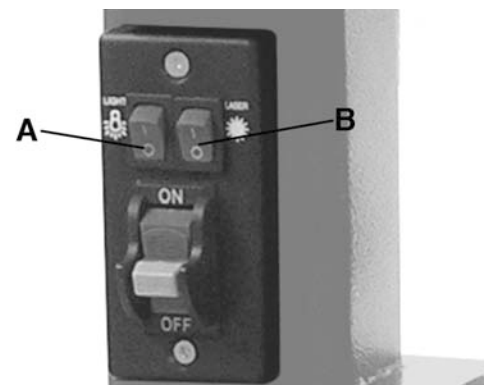

FIGURE 15
- 1) To turn the work light On, press the work light switch (A) Fig.15 upwards to the "I" On position. To turn the work light Off, press the work light switch downwards to the "O" Off position.
- 2) To turn the laser guide On, press the laser guide switch (B) Fig.15 upwards to the "I" On position. To turn the laser guide Off, press the laser guide switch downwards to the "O" Off position. Go to next page for laser guide adjustment.